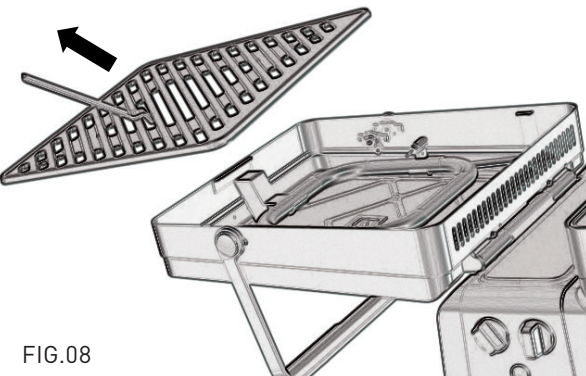

FIG.08
- 3. Pull outwards to remove grate from the grill. (Fig. 08)